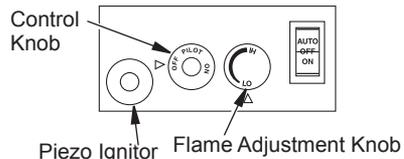

Figure 12 - Setting Control Knobs
4. Press in and turn control knob clockwise to the OFF position (see Figure 12).
5. Wait five (5) minutes to clear out any gas. If you then smell gas, STOP! Follow "B" in the safety information in column 1. If you don't smell gas, go on the next step.
6. Press in and turn control knob counterclockwise to the PILOT position. Press in control knob for five (5) seconds (see Figure 12).